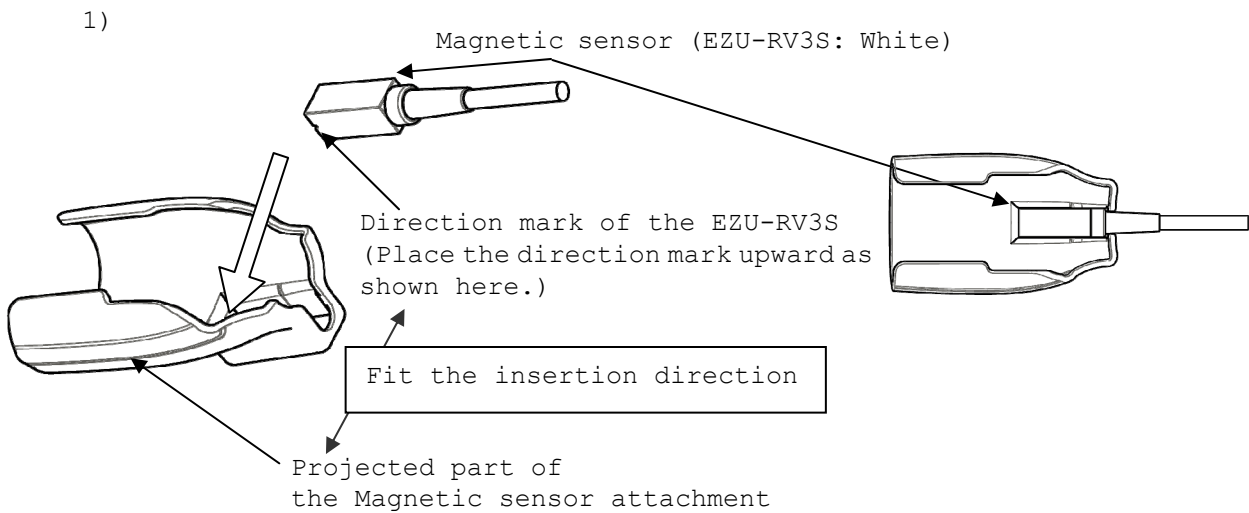

Fig. 8 How to attach the Magnetic sensor attachment
- 1) Attach the magnetic sensor into the probe with the correct direction as shown in Fig. 8.